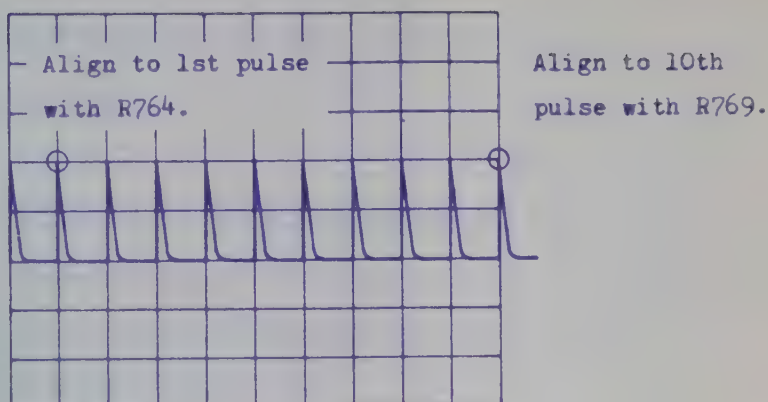
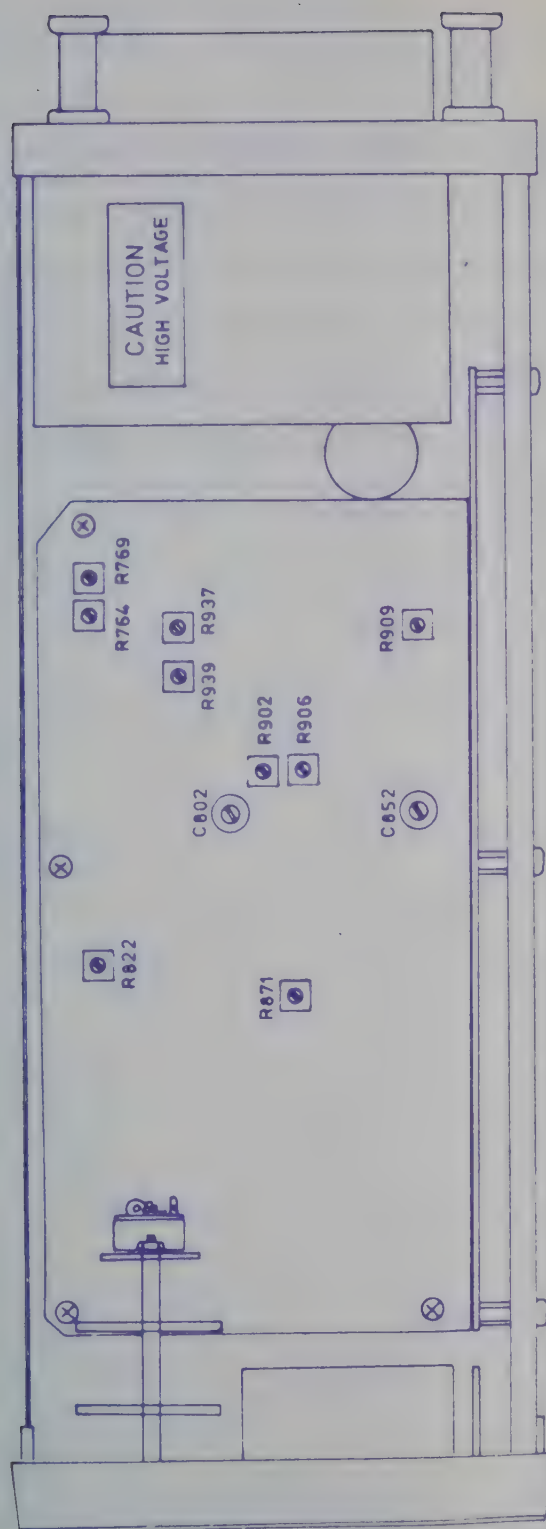

Figure 31
Figure 36
- (1) Apply to the vertical input terminal a time marker signal of 1 msec or a signal of 1 kHz, and deflect the signal with an appropriate amplitude on the screen.
- (2) Set the VARIABLE knob (44) in the CAL'D position. Set the TIME/DIV switch (45) at 1 mS.
- (3) So adjust the A SWEEP CAL (Figure 36, R822) that the displayed waveform conforms with scale divisions of the graticule.
- (4) Change the input signal to a time marker signal of 10 μ S or sinusoidal wave signal of 100 kHz and change the TIME/DIV switch (45) to 10 μ S.
- (5) So adjust the A 10 μ S CAL (Figure 36, C802) that the displayed signal waveform conforms with scale divisions of the graticule.
Calibrate the sweep time to the indicated values of the TIME/DIV switch (44). Adjust the B SWEEP CAL (Figure 36, R871) and B 10 μ S CAL (Figure 36, C852) in a similar manner as that for the case of "Calibration of A sweep time."
- (1) Set the TIME/DIV switches (45) and (46) at 1 mS, set the HORIZ DISPLAY switch (50) at ALT, and display both A and B sweeps on the screen.
- (2) So set the horizontal POSITION knobs (47) and (48) that their white dots are positioned upward (noon position). So adjust the A SWEEP POSITION (Figure 36, R902) that the start point of the A sweep is brought to the left hand end of the graticule.
- (3) Next, with the B SWEEP POSITION (Figure 36, R906), bring the start point of the B trace to the left hand end of the graticule.
- (1) Set the TIME/DIV switch (45) at 1 mS. So adjust the horizontal POSITION knob that the start point of the sweep is brought to the center of the screen.
- (2) Turn ON () the 10 x MAG switch. So adjust the 10 x BAL (Figure 36, R939) that the start point of the sweep is brought to the center of the graticule.
- (1) Apply to the vertical input terminal a time marker signal of 0.1 mS or a signal of 10 kHz and display the signal with an appropriate amplitude on the screen.
- (2) Set the VARIABLE knob (44) in the CAL'D position and the TIME/DIV switch (45) at 1 mS.
- (3) Turn ON () the 10 x MAG switch and so adjust the 10 x CAL (Figure 36, R937) that the displayed waveform conforms with scale divisions of the graticule.
- (1) Apply to the vertical input terminal a time marker signal of 1 mS and display the waveform with an appropriate amplitude on the screen.
- (2) Set the VARIABLE knob (44) in the CAL'D position, set the TIME/DIV switch (45) at 1 mS, set the TIME/DIV switch (46) at 10 μ S, and change the HORIZ DISPLAY switch (50) to the A INTEN state.
- (3) Set the dial indication of the DELAY TIME MULTI at 1.00 and align the displayed waveform with graticule.
- (4) So adjust the B START LEVEL (Figure 36, R764) that the accentuated portion of the waveform is aligned to the initial pulse as shown in Figure 31.
- (5) Set the dial indication of the DELAY TIME MULTI at 10.00.
- (6) So adjust the B END LEVEL (Figure 36, R769) that the accentuated portion of the waveform is aligned to the 10th pulse.
- (1) Operate the oscilloscope in the X-Y mode and set both inputs in the GND state.
- (2) Set the horizontal POSITION knobs (47) and (48) with their white dot positioned upward (noon position) and so adjust the X-Y POSITION (Figure 36, R909) that the spot is positioned in the center of the screen.